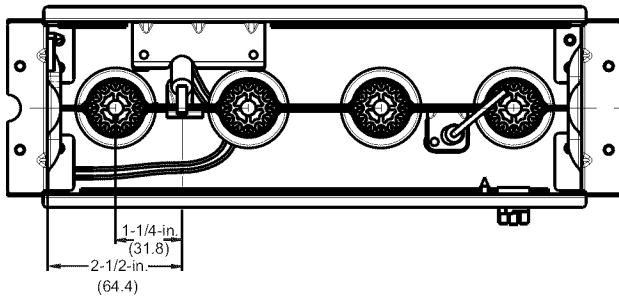

Fig. 26 - Igniter Position - Top View
4. Verify igniter to burner alignment. See Fig. 26 and 27.